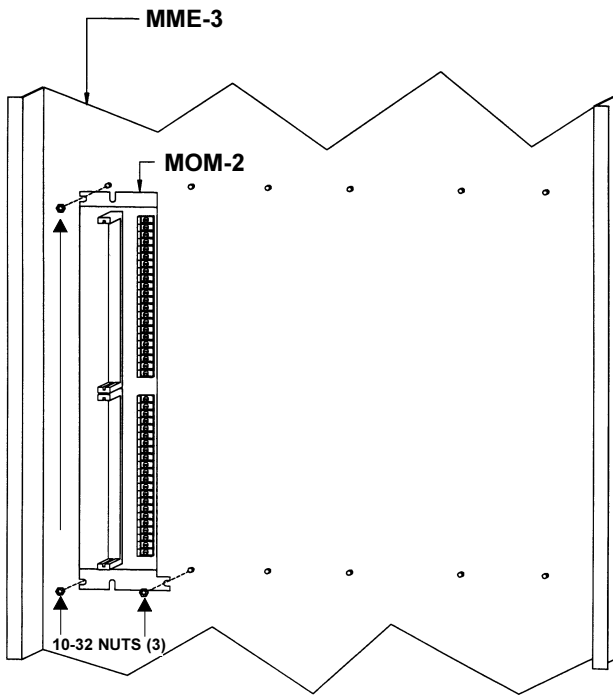

Figure 3
(Refer to Figures 3, 4, and 5.)
The MOM-2 mounts **vertically** in the **MME-3** enclosure under the MMB or the PSR as shown in Figure 3.
2. Place the module on the mounting studs of the MBR-MP mounting plate in the left-hand position as shown in Figure 3.
3. Fasten the MOM-2 in position with the three No. 10 nuts provided, as shown in Figure 3.